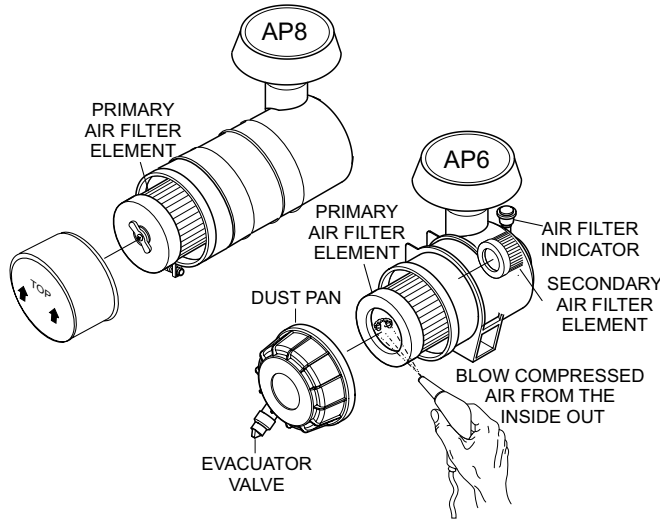

Figure 50. Air Filter
- To clean the main element (paper air filter) as referenced in (Figure 50), tap the filter element several times on a hard surface to remove dirt, or blow compressed air from the inside out (not to exceed 30 psi (207 kPa, 2.1 kgf/cm2)).